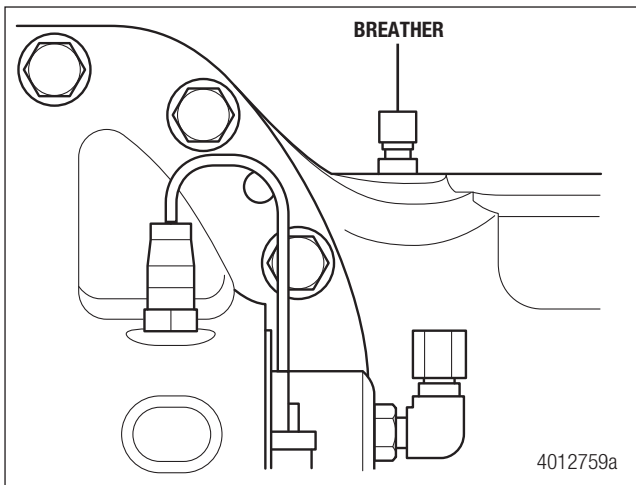

Figure 8.1
3. If required, remove the breather from the axle housing. Figure 8.1.